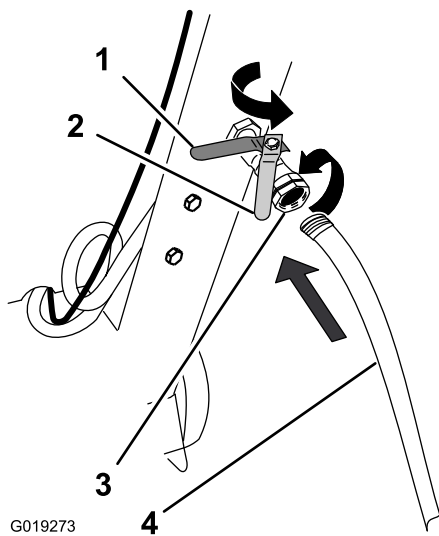

Figure 28
2. At the back of the machine and below the operator's console, locate the water shut off valve and coupling (Figure 28).
- Ensure that the handle for the shutoff valve is in the Off position (Figure 28).
- Align the hose with the coupling and thread the coupling and hose together (Figure 28).
- If wet sawing, rotate the handle of the water shutoff valve to the On position (Figure 28).
3. **If wet sawing**, rotate the handle of the water shutoff valve to the Off position (Figure 28).